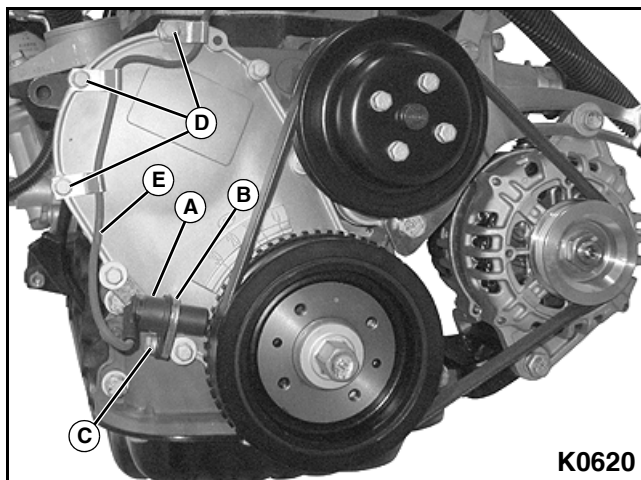

Figure 3-82
1. Install crankshaft position sensor (A) to mounting bracket (B). **See Figure 3-82.**
2. Install mounting bolt, flat washer, and lock washer (C) to crankshaft position sensor.
3. Install three electrical harness clamp bolts, flat washers, and lock washers (D) to crankshaft position sensor wiring harness (E).